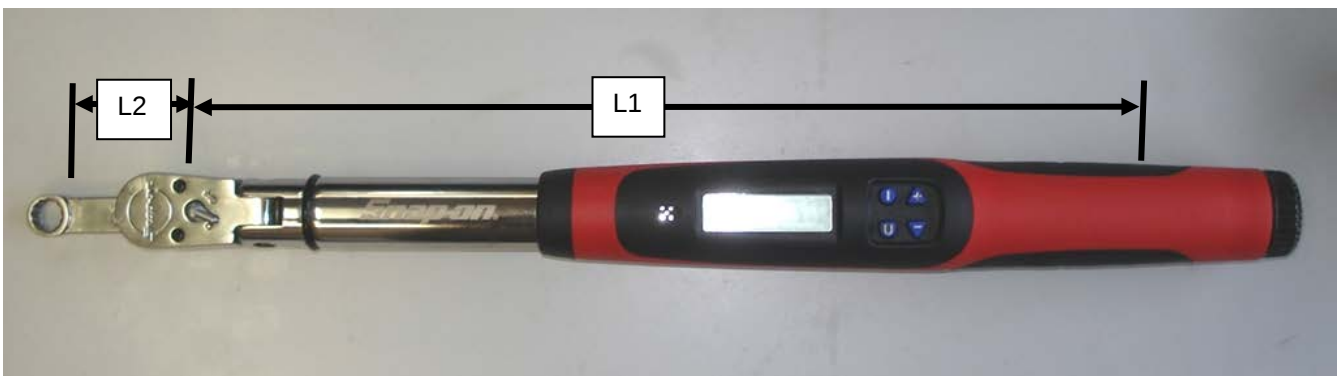

Figure 6 – Torque Wrench & Crowsfoot Adaptor Setting 1
- A “Crowsfoot” extension as shown in Figure 4 is sometimes necessary – it allows high torque settings to be used on small nuts without damaging them and access to difficult locations. However, when using the extension as shown in Figure 6 the extra length will throw off the torque setting of the wrench. This must be corrected using the following formula:
- For example: a nut needs to be tensioned to 30lb.ft. The torque wrench is 12” long and the crowsfoot extension is 2” long. The extension is oriented as shown in Figure 6. This means that the torque wrench must be set to: